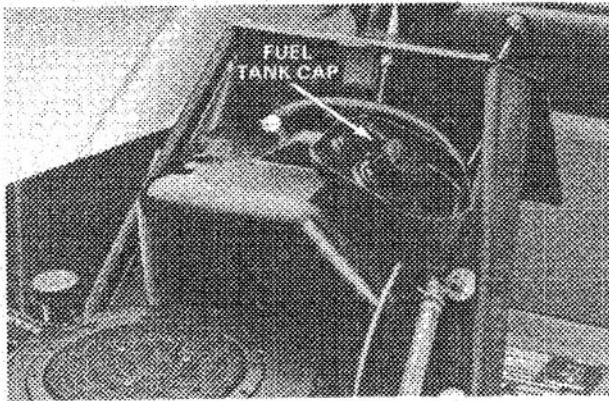

Figure 9
- 3. Remove cap from fuel tank (Fig. 9) and fill tank w/lead-free or leaded regular gasoline. Then install fuel tank cap.